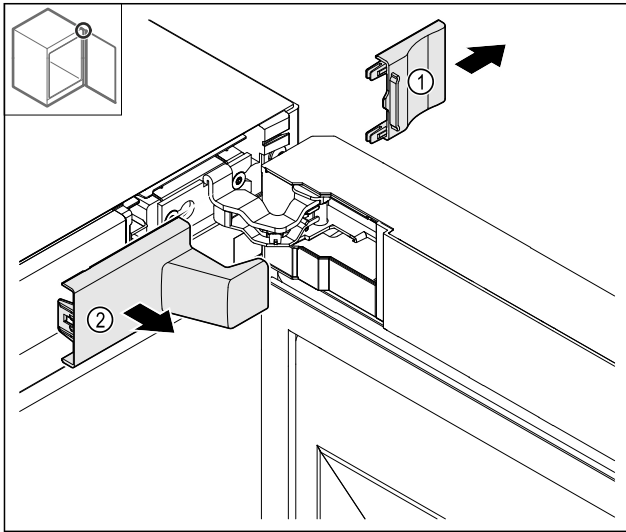

Fig. 9
- ▶ Lift off the cover Fig. 9 (1) and then remove Fig. 9 (2).